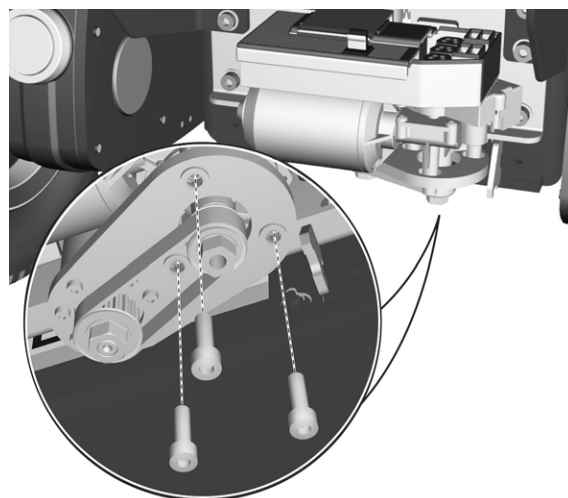

Figure 114. The motor is attached with three screws.
2. Assemble the motor using the three screws and washers. See fig. 114.